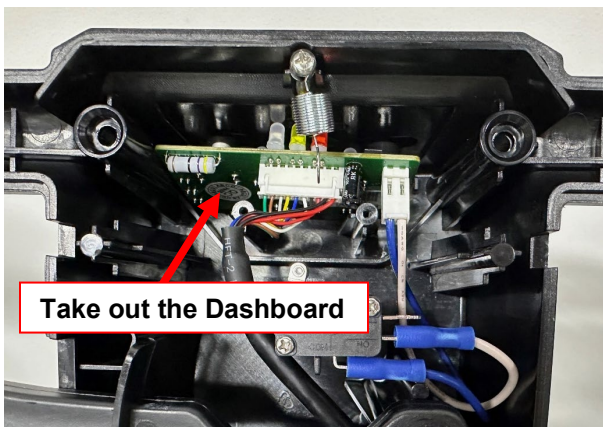

Figure 11
10. Take out the Dashboard (Figure 11).